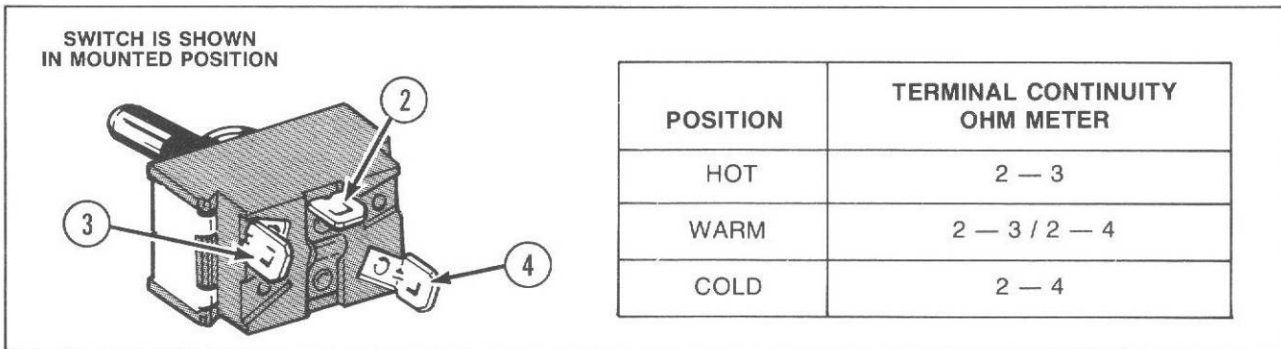

Figure 49
- Apply meter probes to terminals indicated in *Figure 49* for continuity check.